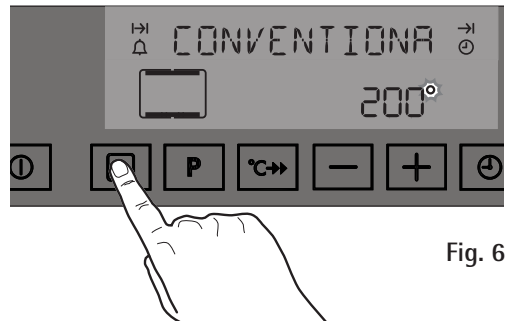

Fig. 6
3. Touch the "Cooking Functions" control  twice and select the "Conventional Cooking" function  (Fig. 6).